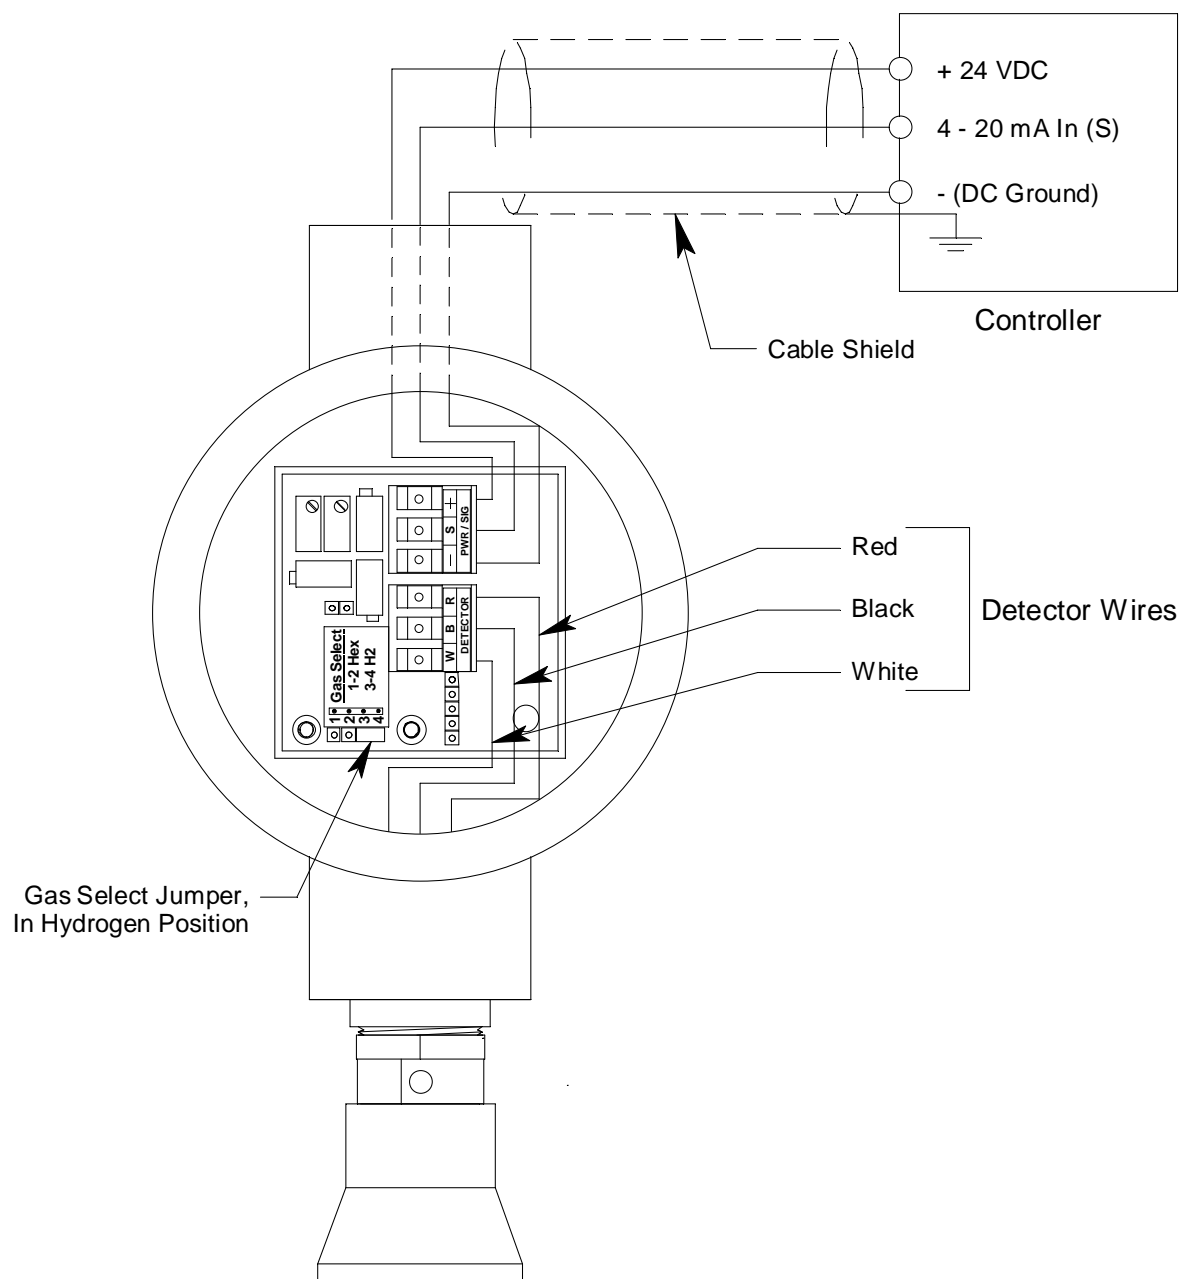

Figure 3: Wiring the PPM Hydrogen Transmitter to a Controller
4. The detector leads are factory wired. Verify that the detector leads are wired to the amplifier's detector terminal strip as shown in Figure 3.
7. Pull out the controller terminal strip, and connect the three wires to the terminal strip as follows (see Figure 3).
11. Connect the wires to the applicable detector/transmitter terminal strip at the controller as shown in Figure 3.
- Connect the detector leads to the detector terminal strip as shown in Table 3 below and Figure 3 on page 9 of this manual.